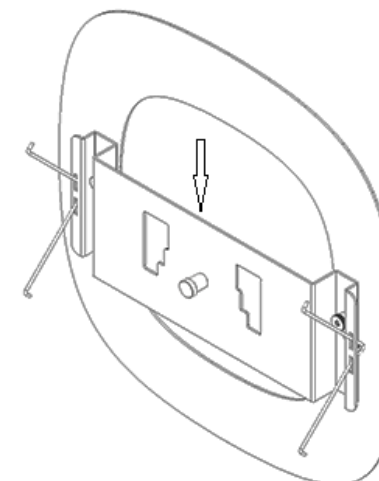

Figure 5 - Reattach Mounting Plate to Trim
Step 5 - Reattach the mounting bracket to the trim piece using the thumb nuts previously removed. Leave the thumb nuts partially loose by approximately 1 or 2 turns to allow the bracket to slide in the slots located beneath the thumb nuts. Before placing the access point in the opening, slide the mounting bracket along the slots so that is positioned as shown (Figure 5).